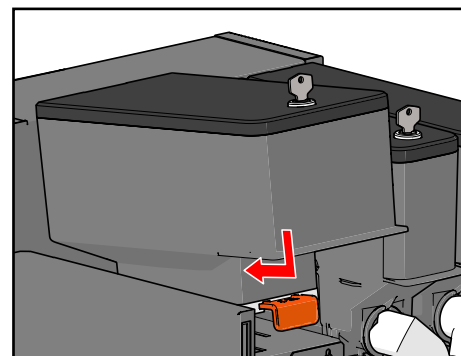

Figure 58.
7. Replace the canister. First hook in the back side and then lower the front (see Figure 58).